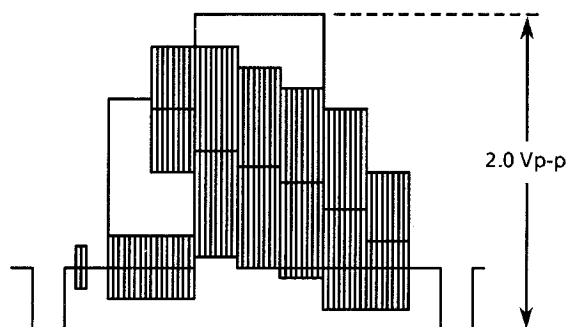

Figure 1-12.
2. Hook up the oscilloscope to pin (34) of IC201 (video output) . Adjust R201 (playback level control) so that the on-screen waveform be $2.0 \pm 0.1\text{Vp-p}$ as shown in **Figure 1-12**.